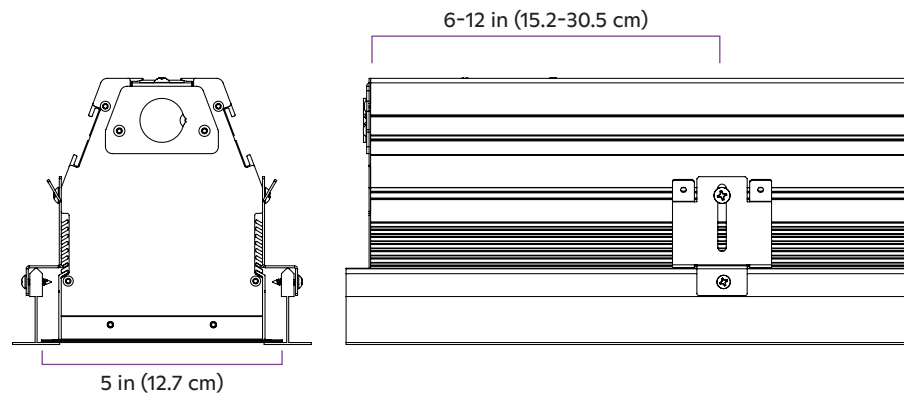

fig. 6
- a. Position the bracket on the fixture within 6-12 in (15.2-30.5 cm) of a corner. For spacing, see fig. 6. Hook the bracket into the fixture's outer ribs, using the lowest rib possible such that the bracket rests on the t-bars.